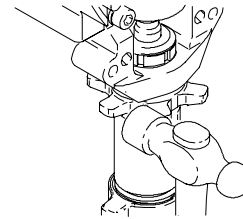

Fig. 17
6. Fig. 17. Loosen locknut by hitting firmly with a 20 oz (maximum) hammer. Unscrew pump.